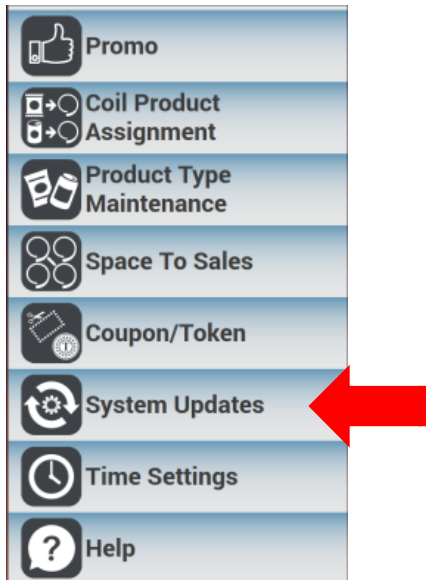

Figure 53
3. Once in service mode scroll down to **System Updates** on the touch screen (See figure 53.)